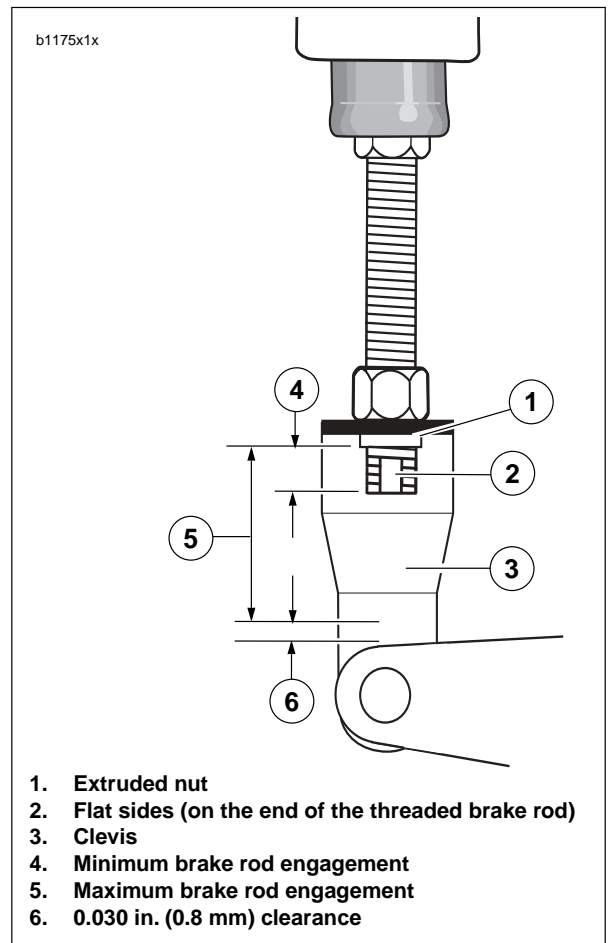

Figure 1-13. Brake Rod Engagement
- See Figure 1-13. On the very end of the threaded brake rod, are two flat sides (2). To ensure thread engagement with the clevis (3), the flat sides must extend below the extruded nut (1) in the clevis by at least one full thread. This is the minimum brake rod engagement (4).
- Also, there should be a minimum of 0.030 in. (0.8 mm) clearance (6) between brake rod end and brake pedal (6). This is the maximum brake rod engagement. (5)